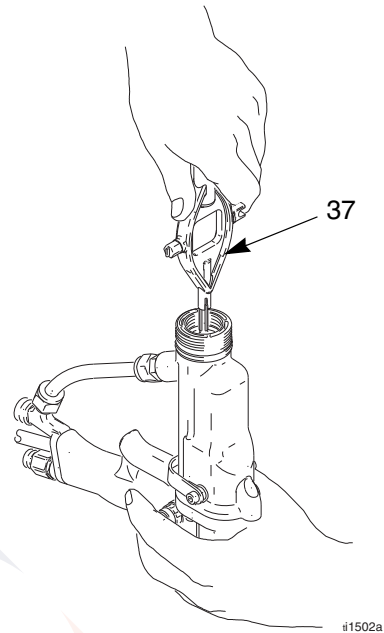

Fig. 12. Electrode Replacement
3. Unscrew the electrode (29) with the multi-tool (37). Hold the packing rod end (26h) to prevent it from turning, FIG. 12.